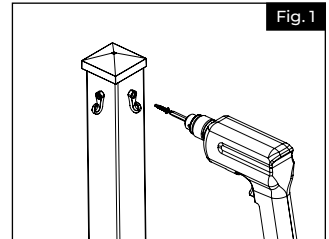

Fig. 1
- a. Mark the holes and pre-drill with a $\frac{5}{32}$ " drill bit and secure with provided #10 x 1" long screws. (Fig. 1).